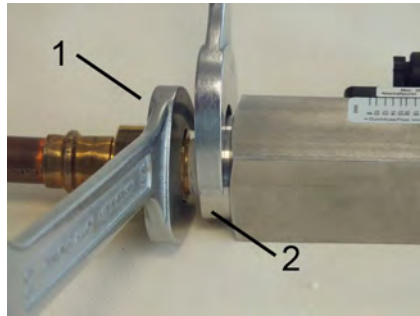

Fig. 12: Screw in the device
3. Keep turning in the adapter union (Fig. 12/1) while holding the process connection of the device locked (Fig. 12/2) until the connection is tight.